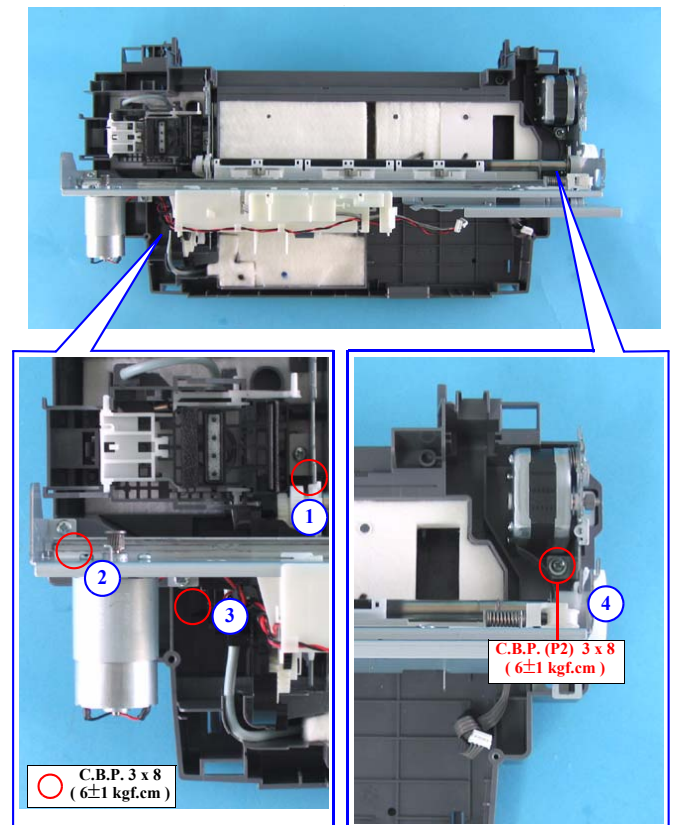

Figure 4-23. Removing Housing Lower Assy. (1)
- When installing the Main Frame, match the two guide pins with the two positioning holes, and secure them with screws in the order shown in Figure 4-23.